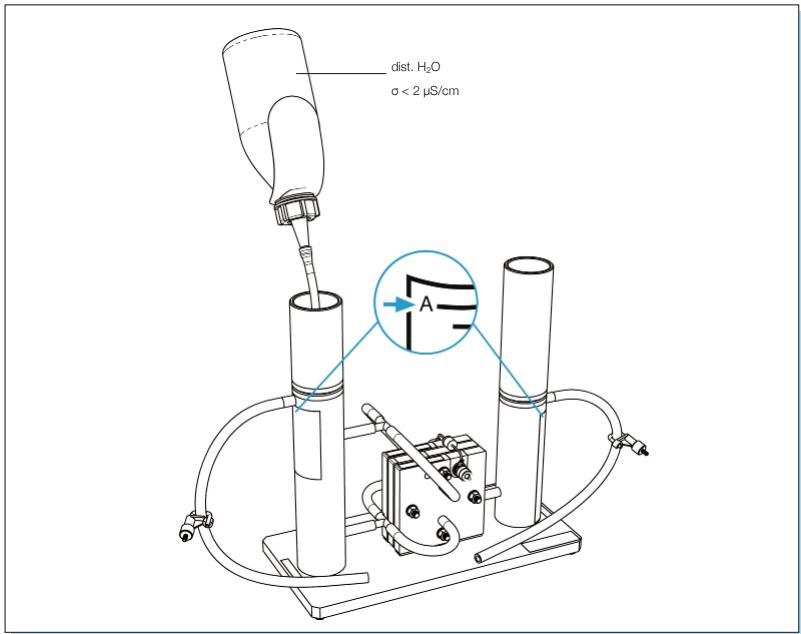

Fig. 4: Filling
- Fill both gas storage tanks with distilled water to the -A- mark ( $\sigma < 2 \mu\text{S}/\text{cm}$ ) as shown in figure 4.